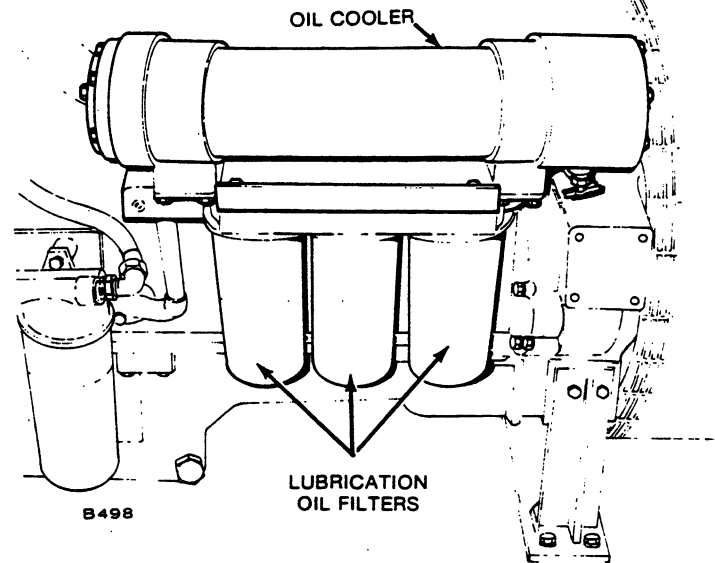

FIGURE 22. LUBRICATION OIL FILTERS
1. Unscrew and discard filters (Figure 22).